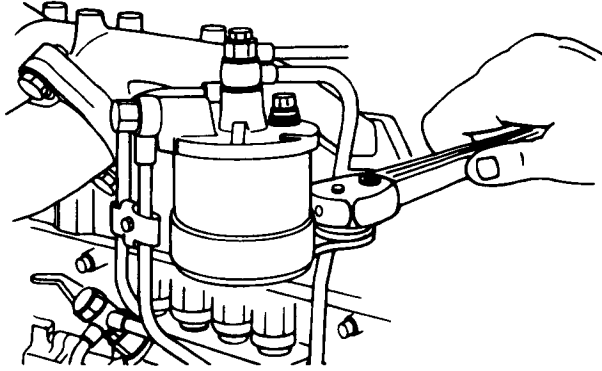

Figure 3-11 Fuel filter
**338.** Place a suitable container beneath the fuel filter, then, using a suitable filter-removing tool, remove the filter (see Fig. 3-11). Remove the filter rubber seal from the cover. Smear clean fuel on the rubber seal of a new filter and install the new filter on the cover. Tighten the filter by hand until the rubber seal touches the cover face, then tighten a further half a turn. Bleed the fuel system as detailed in Chapter 3 Section 1.